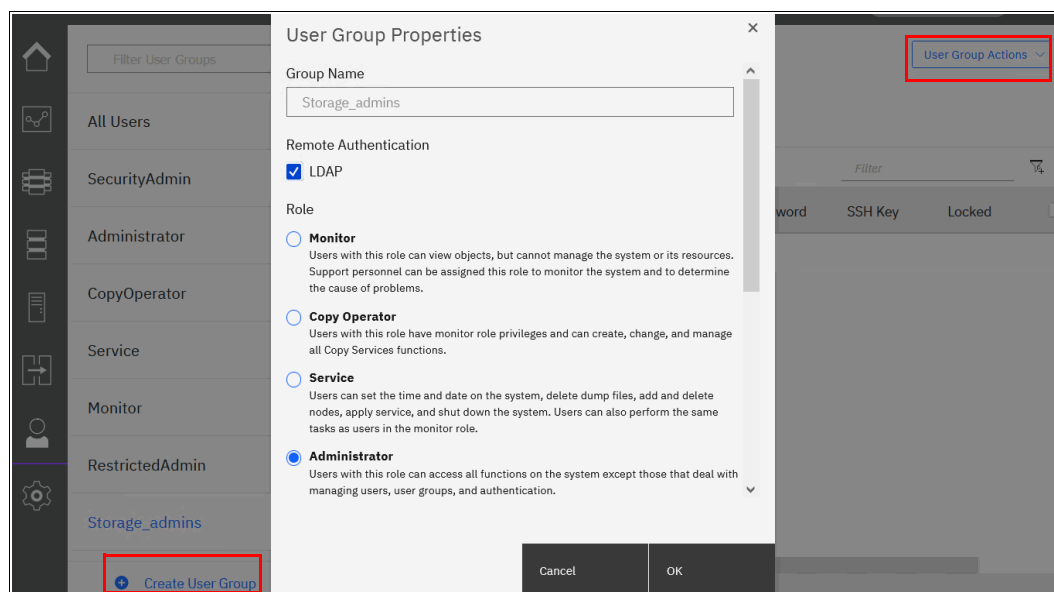

Figure 3-69 Creating a user group with remote authentication enabled
1. Select **Access** → **Users by Group** and click **Create User Group**. Enter the name for the new group, select the **LDAP** option, and choose a role for the users in the group, as shown in Figure 3-69.